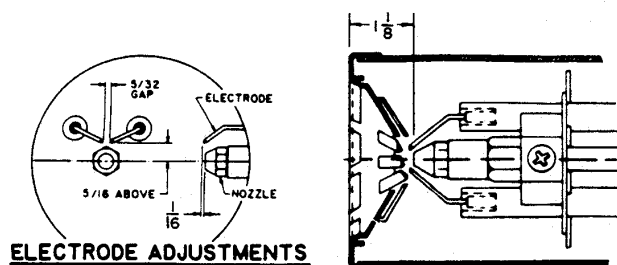
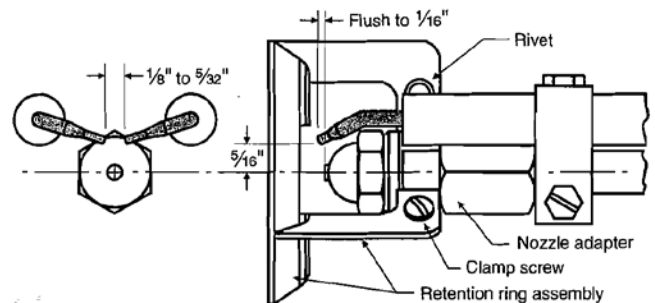

Figure 25: Electrode / Head Setting for Beckett Burner
Figure 25A: Electrode / Head Setting for Carlin EZ-1HP Burner
1. Check nozzle size, head size, gun setting, and positioning of electrodes. This information is shown in Figure 25 and Tables 7 and 7A for Beckett burner, Figure 25A and Table 7B for Carlin EZ-1HP burner.